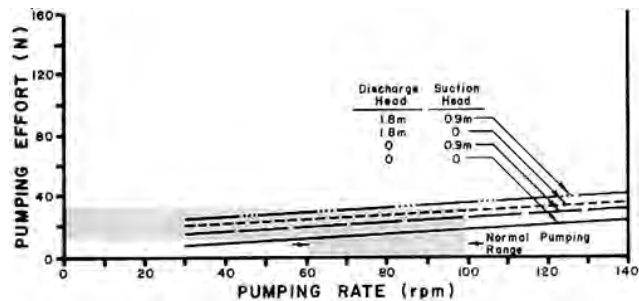

FIGURE 3. Pumping Effort with Diesel Fuel at Various Pumping Rates, Suction and Discharge Heads.
**Pumping Effort:** Pumping effort is the hand force that has to be exerted, perpendicular to the end of the crank handle, to operate the pump. FIGURE 3 shows the hand force needed at various pumping rates, suction and discharge heads. Pumping effort increased slightly with increasing pumping rates, suction and discharge heads. At a pumping rate of 100 revolutions per minute, at zero suction and discharge heads, it was 18 N (4 lb) compared to 13 N (2.9 lb) at 60 revolutions per minute. At an average pumping rate of 80 revolutions per minute, pumping effort increased from 15 N (3.4 lb) at zero suction and discharge heads to 32 N (7.0 lb) with a suction and discharge heads of 0.9 m (3 ft) and 1.8 m (6 ft), respectively.